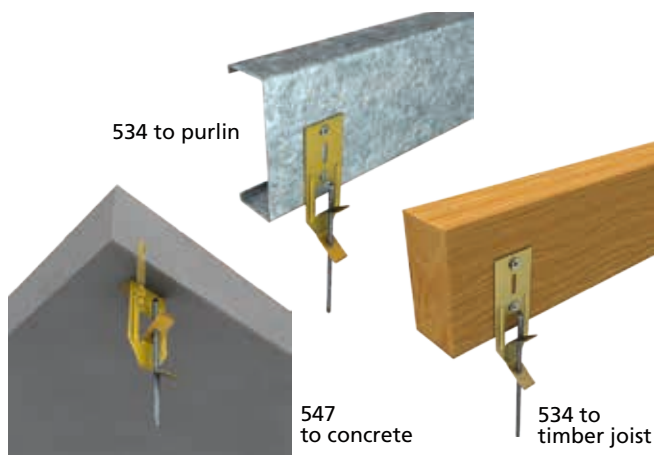

FIGURE 6: HANGER CLIPS
3. Cut 121 Suspension Rod to required length and slide into hanger clip tabs. Refer Figure 6.